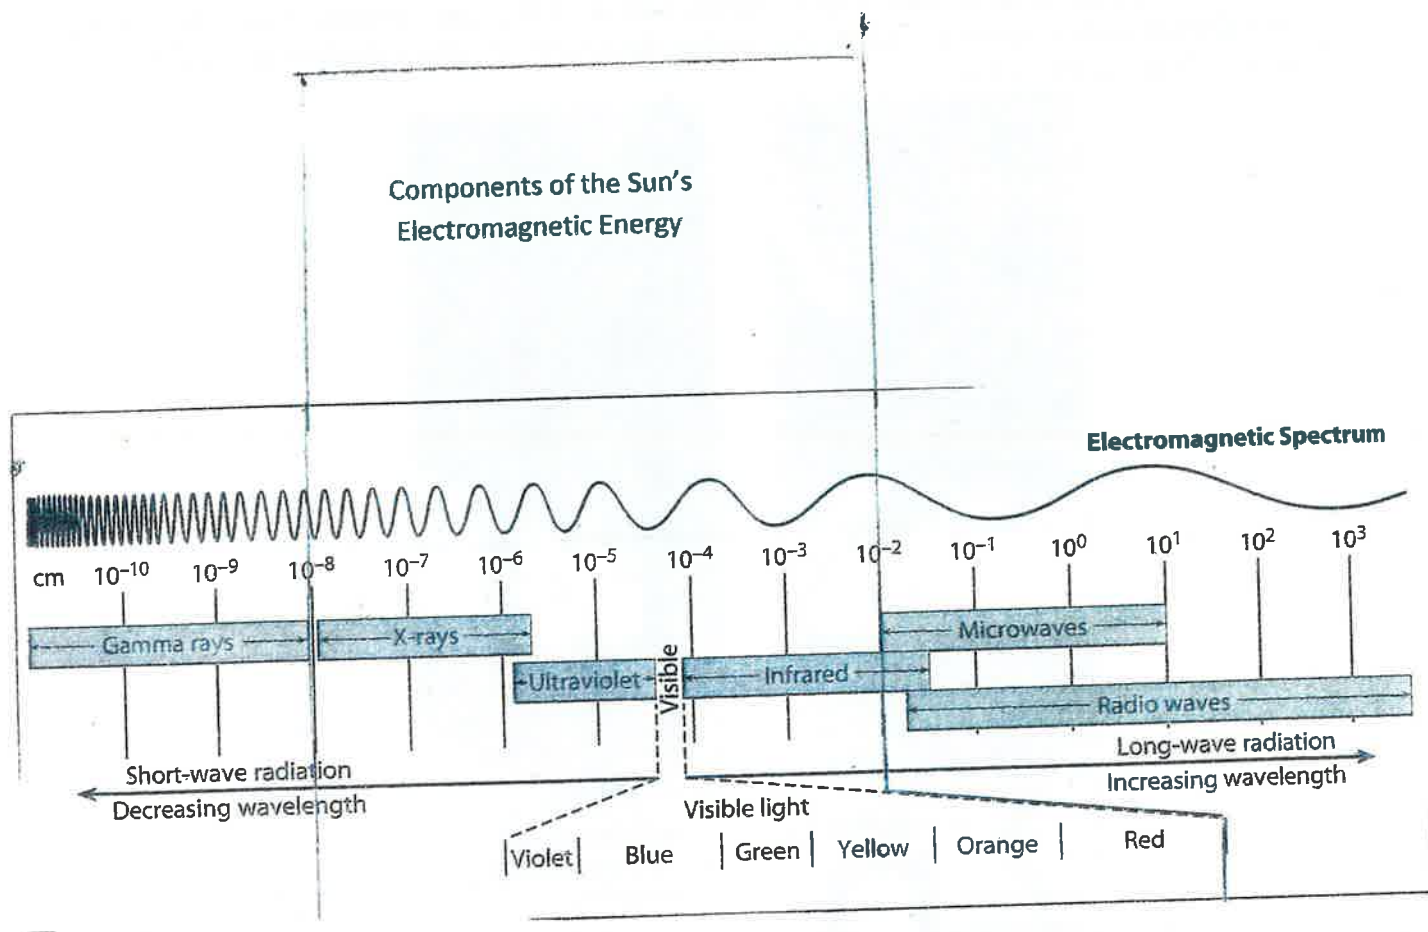

Figure 2: The electromagnetic spectrum. The components of solar radiation (X-rays, UV, visible, and infrared) are boxed in.
The Sun's rays are comprised of four different types of electromagnetic energy including X-rays, ultraviolet (UV) radiation, visible light, and infrared radiation. The strength and intensity of these different outputs vary because of their different wavelengths. Short-wave radiation, like X-rays and UV, carries more energy while the long-wave type, like visible light and infrared, carries less (See Figure 2). (2)